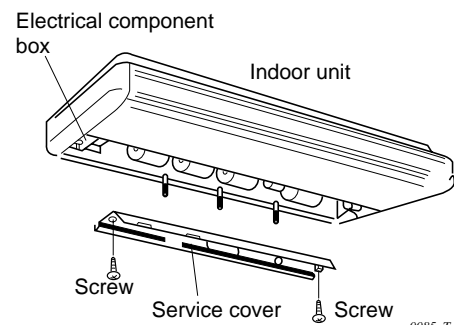
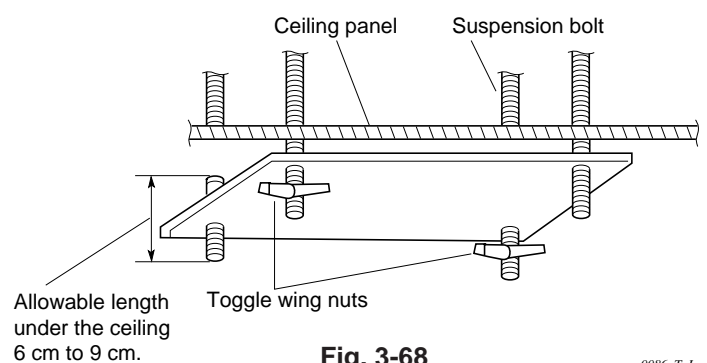

Fig. 3-67
Fig. 3-68
- (5) Before suspending the indoor unit, remove its air intake grille and service cover. (Fig. 3-67)
- (6) Suspend the indoor unit as follows:
- a) Temporarily mount the accessory toggle wing nuts at diagonal locations (Fig. 3-68) on the suspension bolts.